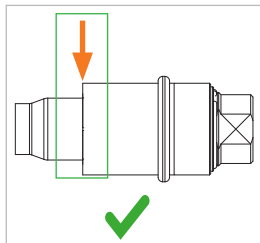

Figure 4
- ▶ Push the grip sleeve (Pos. 1) forward by hand until it is flush with the clamping jaws (Pos. 3) (Figure 4). The connector is now connected.